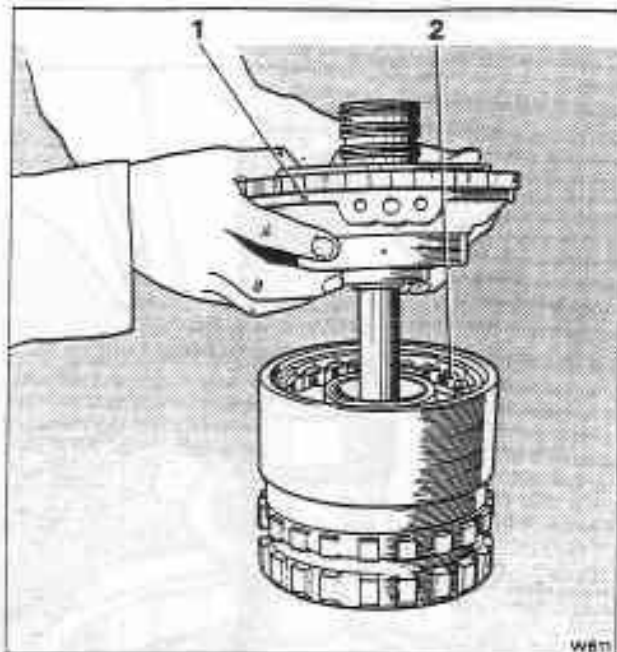

Fig. T20-19 Fitting the centre support into the reaction carrier (roller clutch)
24. Fit the centre support assembly into the roller clutch (see fig. T20-19).